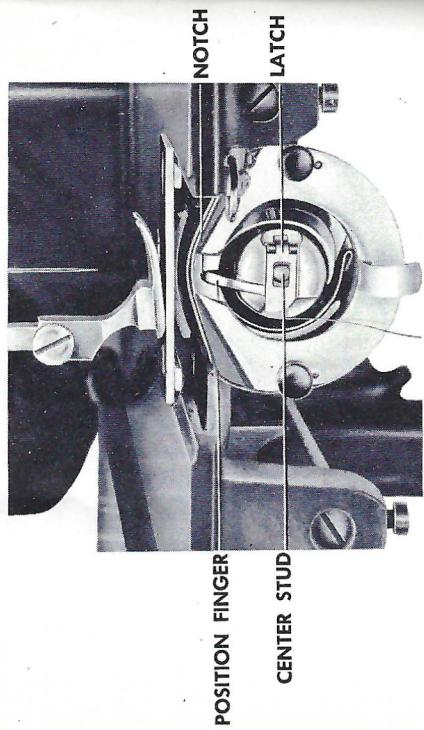

Fig. 18
- e.* With thumb and forefinger of left hand, take bobbin case (into which the full bobbin has been inserted) by the latch and place it on the center stud of the hook (shuttle). The position finger of the bobbin case must be opposite the notch on top of the race plate, as shown in Fig. 18.